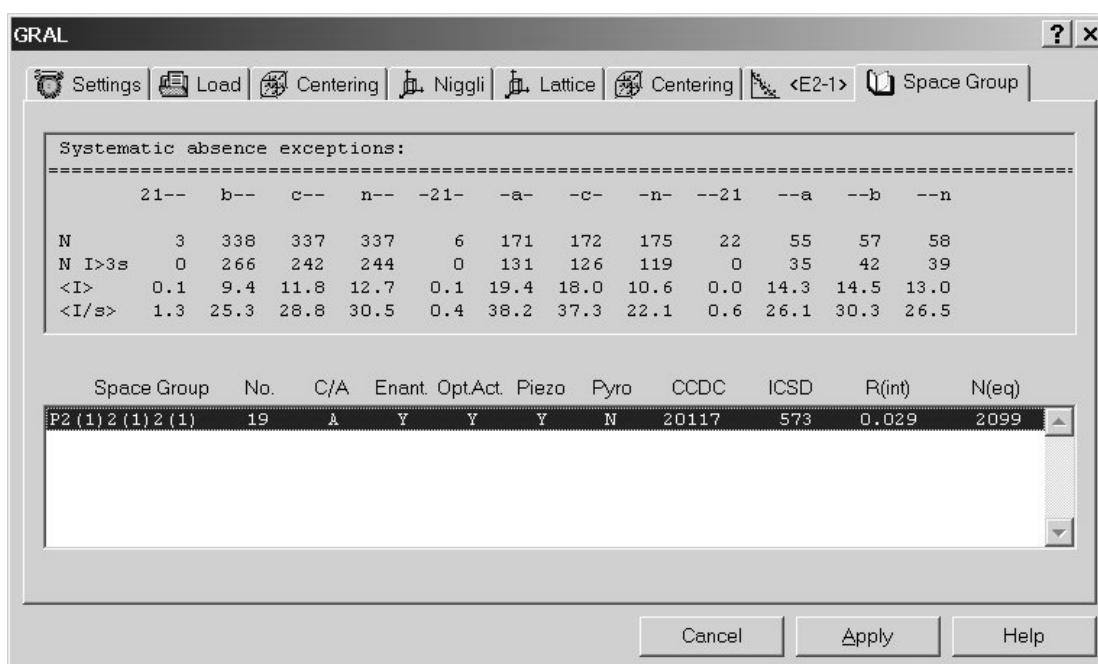

Figure 6.5.39 Screenshot of the GRAL plug-in Space Group Window
- GRAL now examines the systematic absence exceptions (where applicable) and provides a statistical table for user confirmation of its preferred choice of space group. Figure 6.5.39 shows the space group P2(1)2(1)2(1) selected. The user can accept this choice by clicking on "Apply" or select from one of the alternative choices when present.